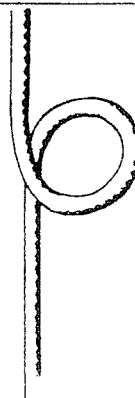

Fig. 3-6. A loop of rope that crosses over itself.
**Loop.** A turn of the rope that crosses itself (fig.3-6).